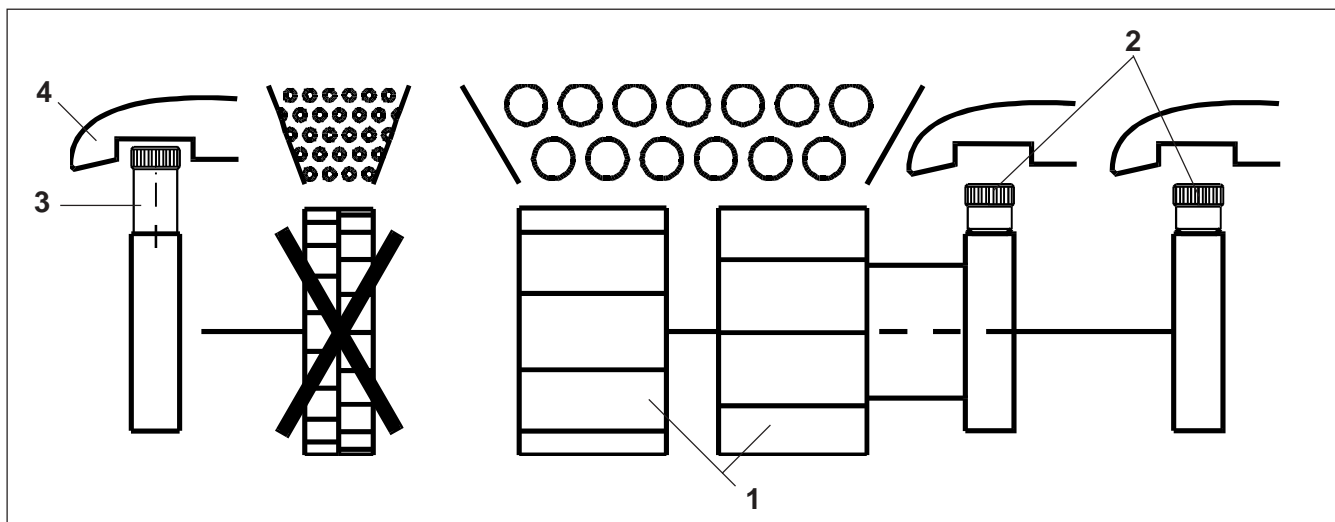

Fig. 20.6
Sowing with both main metering wheels (Fig. 20.6/1):
- Drive in coupling screws (Fig. 20.6/2) of the main metering wheels.
- Drive out coupling screws (Fig. 20.6/3) of the fine seed metering wheel.